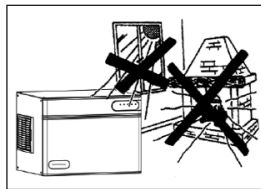
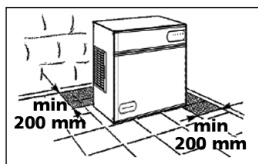

Fig. 2.
Fig. 3.
e) Machine is away from sources of heat and in a sufficiently ventilated area. A distance of at least 20cm must be allowed between the sides and back of the machine from the walls (Fig.2, Fig.3).